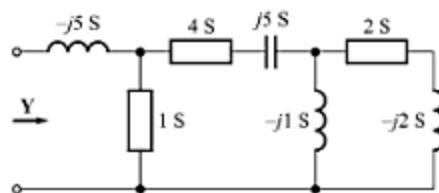

Fig. C-60
- C-91. Find the admittance  $\mathbf{Y}$  of the circuit shown in Fig. C-60. [Ans.  $2.29\angle-42.2^\circ \text{ S}$ ]